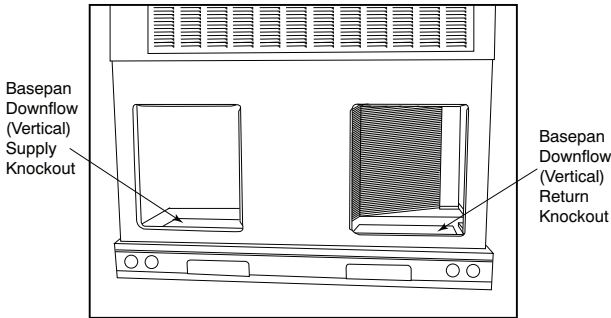

Fig. 9 - Supply and Return Duct Opening
2. Remove horizontal (metal) ductcovers to access vertical (downflow) discharge duct knockouts in unit basepan. (See Fig. 9.)
NOTE: These panels are held in place with tabs similar to an electrical knockout. Reinstall horizontal duct covers (Fig. 9) shipped on unit from factory. Insure openings are air and watertight.